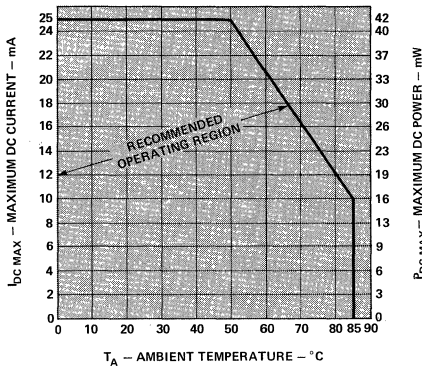

Figure 2. Maximum Allowable DC Current and DC Power Dissipation per Segment as a Function of Ambient Temperature.
- From Figure 2, determine the value for  $I_{DC\text{ MAX}}$ .